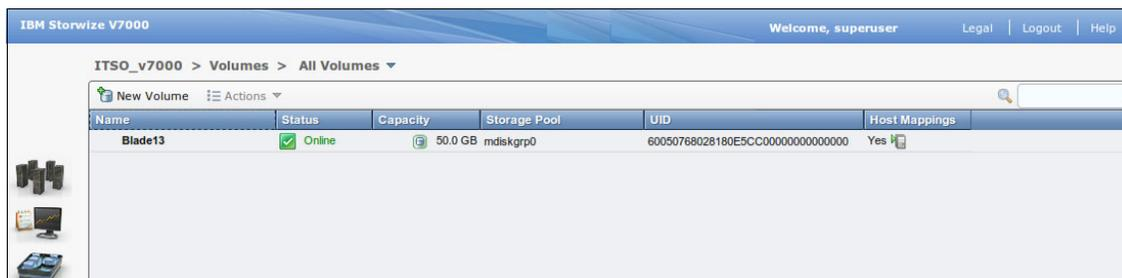

Figure 10-119 IBM Storwize V7000 window
4. From the **Volumes** menu, select **All Volumes** → **New Volume** (Figure 10-119).